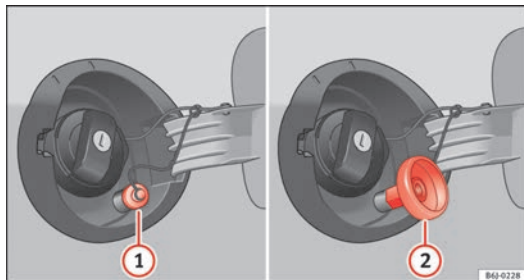

Fig. 128 Fuel tank open with LPG filler neck and adapter.
- Unscrew the cap of the gas filler neck ⇒ fig. 128 ①.
- Screw the required adapter ⇒ fig. 128 ② on the gas filler neck ①.
- Unscrew the adapter ⇒ fig. 128 ②.
- Screw on the cap of the gas filler neck ⇒ fig. 128 ①.